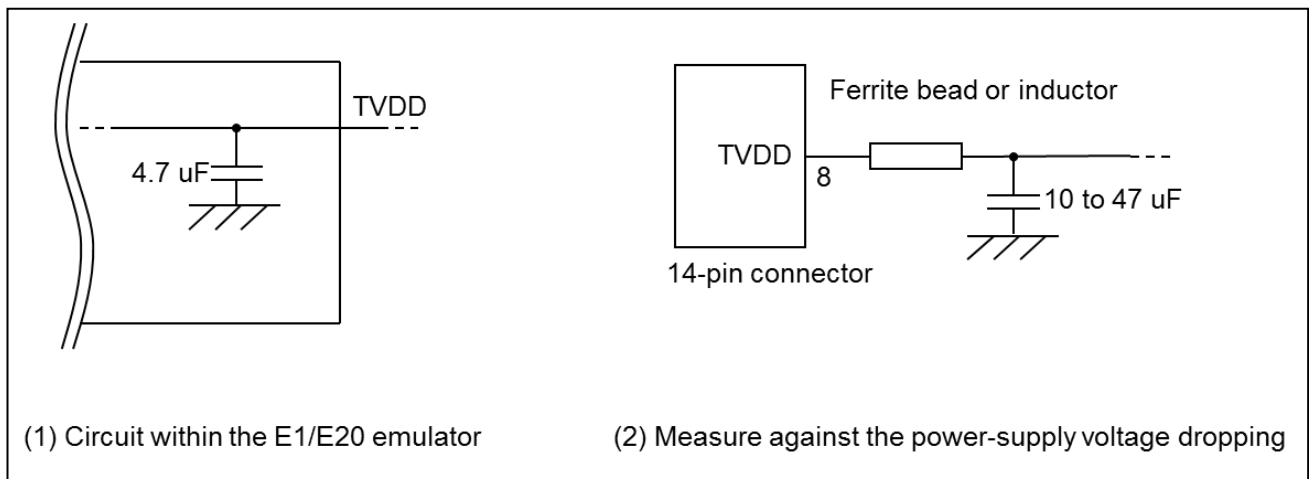

Figure 2-7 Circuit Configuration for Hot Plug-in
If there is a possibility you will be using hot plug-in connection, you will need to configure the circuit as shown below. Pin 8 of the E1 emulator is connected to a 4.7- μ F capacitor as shown in (1) in Figure 2-7, so hot plug-in connection of the emulator may lead to a momentary drop in the power-supply voltage on the user system. This might cause the MCU to be reset. As shown in (2) in Figure 2-7, this effect can be reduced by placing a ferrite bead (or inductor) and relatively large capacitor with low equivalent series resistance near the TVDD line of the connector for connection of the emulator. Note that this measure will not completely eliminate the voltage drop. Note that hot plug-in connection is only for use during debugging, and a separately sold hot plug-in adapter is necessary to use this function otherwise.